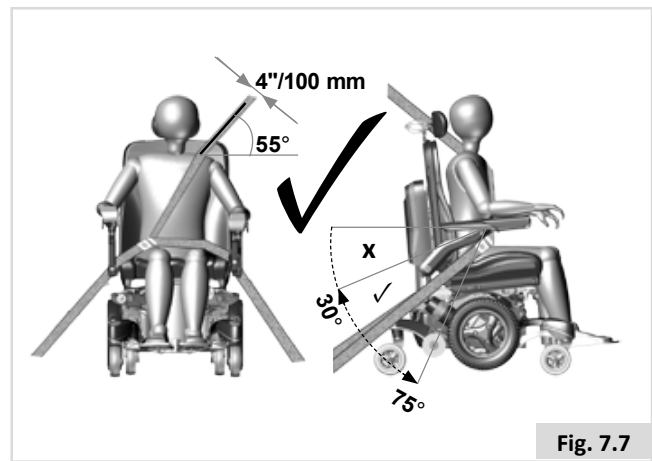
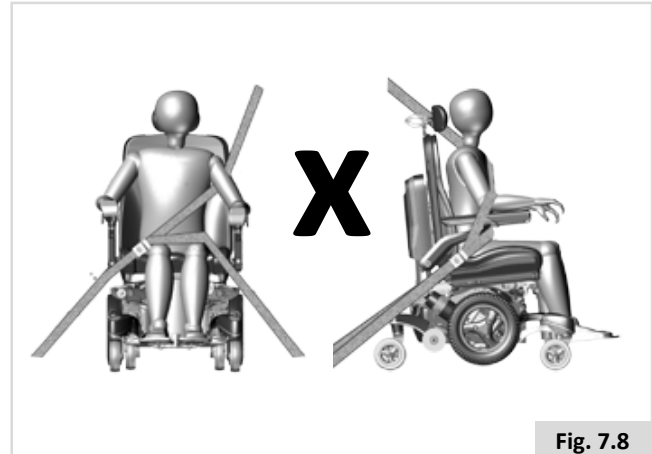

Fig. 7.7
Fig. 7.8
- Restraints should be mounted to the appropriate vehicle pillar and should not be held away from the body by wheelchair components such as armrest or wheels (Fig. 7.7).
- A steeper (greater) angle within the preferred zone is desirable i.e. closer to, but never exceeding 75° degrees (Fig. 7.7).
- i. The upper torso restraint belt must fit over the shoulder and across the chest as illustrated (Fig. 7.7). Restraint belts must be adjusted as tightly as possible consistent with user comfort. Do not fit restraint belt as shown in Fig. 7.8.